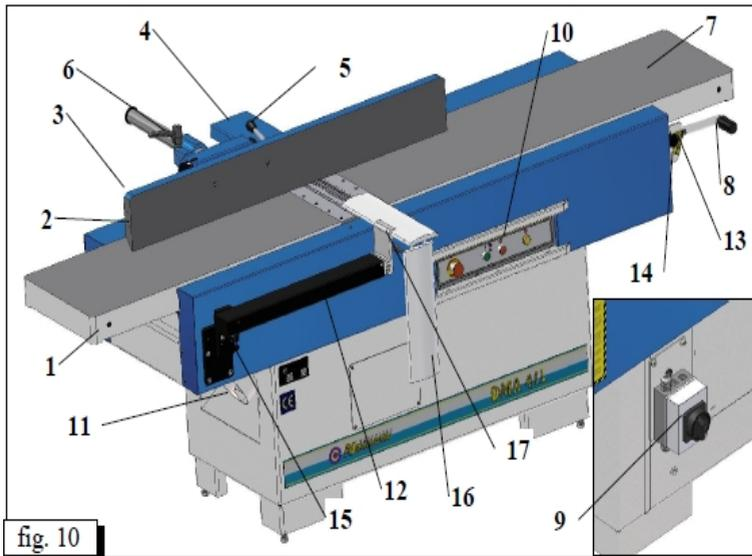

fig. 10
The smoothing planer is composed of the following main components /fig. 10/:
- Cover the cutting shaft by the guard 16 (fig. 10)
*Preparation for smoothing /fig.10/*
- The piece is pushed by the right hand a little some below the guard of the cutting shaft; the guard should lay on the piece (fig.10).